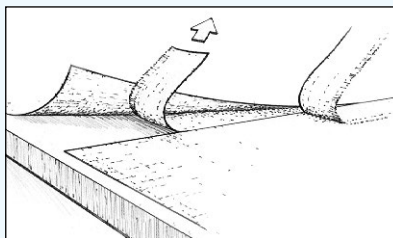

Figure 27 Remove the topmost trimming, lift the opposite cut edge to remove the overlapped trimming.
- c) Remove the top-most trimming and then lift the opposite cut edge to remove the overlapped trimming (*Figure 27*).